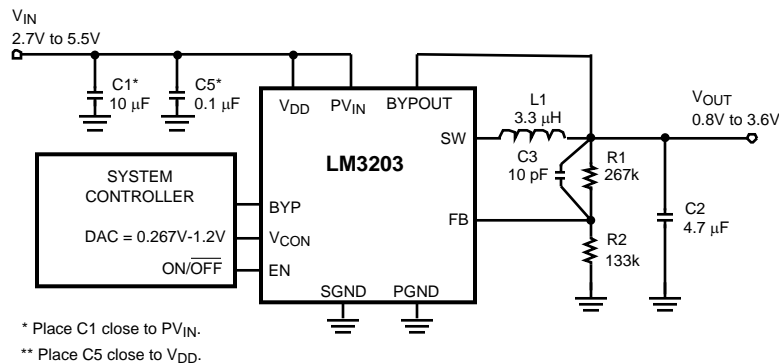

Figure 31. Typical Operating System Circuit where baseband controls the output voltage using a DAC
- (1) All voltages are with respect to the potential at the GND pins.
- (2) Min and Max limits are specified by design, test, or statistical analysis. Typical numbers are not ensured, but do represent the most likely norm.
- (3) The LM3203 is designed for mobile phone applications where turn-on after power-up is controlled by the system controller and where requirements for a small package size overrule increased die size for internal Under Voltage Lock-Out (UVLO) circuitry. Thus, it should be kept in shutdown by holding the EN pin low until the input voltage exceeds 2.7V.
- (4) Over-Voltage protection (OVP) threshold is the voltage above the nominal V_{OUT} where the OVP comparator turns off the PFET switch while in PWM mode. The OVP threshold will be the value of the threshold at the FB voltage times the resistor divider ratio. In the Figure 31, $100\text{mV (typ.)} \times ((267\text{K} + 133\text{K}) \div 133\text{K})$.
- (5) Shutdown current includes leakage current of PFET and Bypass FET.
- (6) Electrical Characteristics table reflects open loop data ($FB=0\text{V}$ and current drawn from SW pin ramped up until cycle by cycle current limit is activated). Refer to Typical Performance Characteristics (Open/Closed Loop Current Limit vs Temperature (PWM Mode) curve) for closed loop data and its variation with regards to supply voltage and temperature. Closed loop current limit is the peak inductor current measured in the application circuit by increasing output current until output voltage drops by 10%.
- (7) Bypass FET current limit is defined as the load current at which the FB voltage is 1V lower than V_{IN} .
(Circuit in Figure 31, $PV_{IN} = V_{DD} = EN = 3.6V$, $BYP = 0V$, $T_A = 25^\circ C$, unless otherwise noted)
(Circuit in Figure 31, $V_{IN} = V_{DD} = EN = 3.6V$, $BYP = 0V$, $T_A = 25^\circ C$, unless otherwise noted)
Referring to Figure 31, the LM3203 operates as follows. During the first part of each switching cycle, the control block in the LM3203 turns on the internal PFET (P-channel MOSFET) switch. This allows current to flow from the input through the inductor to the output filter capacitor and load. The inductor limits the current to a ramp with a slope of around $(V_{IN} - V_{OUT}) / L$, by storing energy in a magnetic field. During the second part of each cycle, the controller turns the PFET switch off, blocking current flow from the input, and then turns the NFET (N-channel MOSFET) synchronous rectifier on. In response, the inductor's magnetic field collapses, generating a voltage that forces current from ground through the synchronous rectifier to the output filter capacitor and load. As the stored energy is transferred back into the circuit and depleted, the inductor current ramps down with a slope around V_{OUT} / L . The output filter capacitor stores charge when the inductor current is going high, and releases it when inductor current is going low, smoothing the voltage across the load.
The LM3203 features a pin-controlled variable feedback voltage. It can be programmed for an output voltage from 0.8V to 3.6V by setting the voltage on the V_{CON} pin, as in the formula below (Refer to Figure 31). In this scheme the output voltage is directly proportional to V_{CON} .
When V_{CON} is between 0.267V and 1.20V, the output voltage will follow the above equation. For example, the V_{OUT} is proportionally 3 times of V_{CON} when external resistor dividers are used as in Figure 31 .